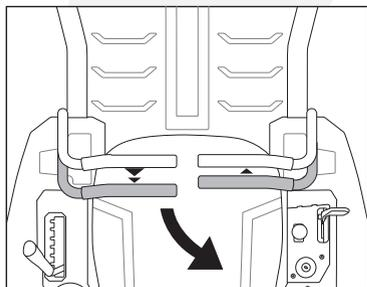

Fig.18B
2. To turn to the left while traveling in reverse, move the right drive control lever forward of the left drive control lever. (Fig.18B)